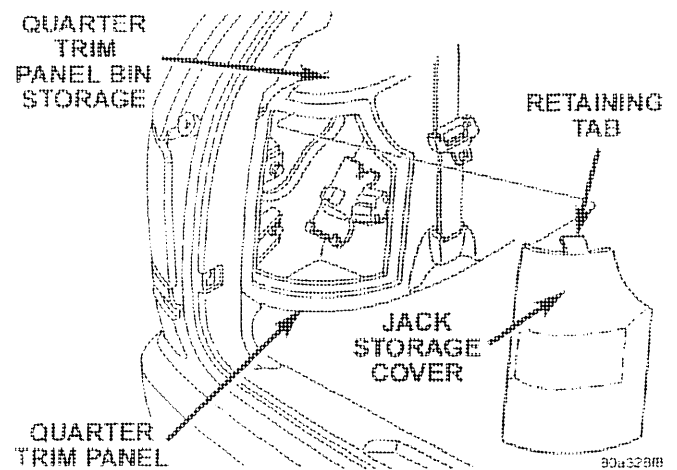

Figure 1
8. Lift upward and rearward on the jack storage cover retaining tab to disengage it, then remove the jack storage cover (Figure 1).
22. Install the jack storage cover (Figure 1) and then close the storage bin cover.